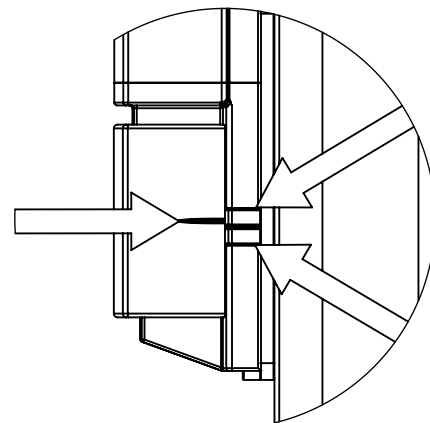

FIG. 7
2. Position the mark on the Keeper Assembly between the two marks on the Latch Body (Fig. 7). The ideal location is closer to the top mark.